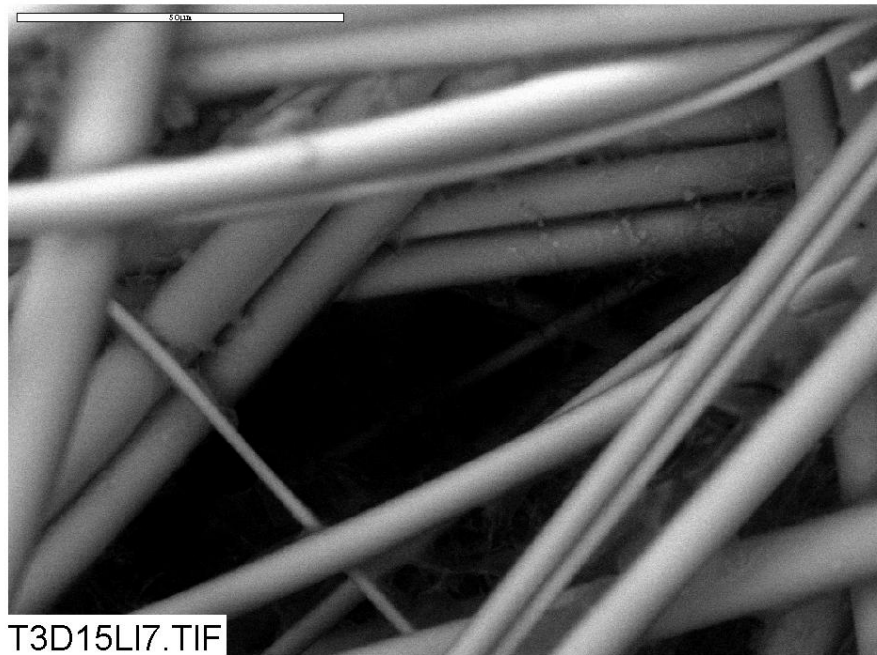

Figure B2-2. Environmental SEM image magnified 1000 times for a Test #3, Day-15 low-flow interior fiberglass sample. (T3D15LI7)
- Figure B2-2. Environmental SEM image magnified 1000 times for a Test #3, Day-15 low-flow interior fiberglass sample. (T3D15LI7) B2-5